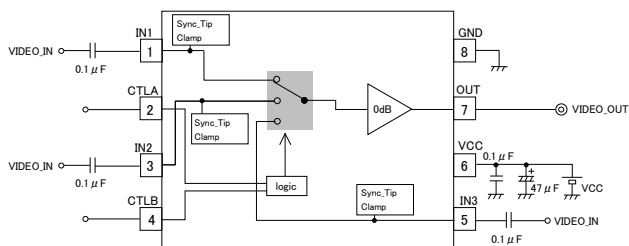
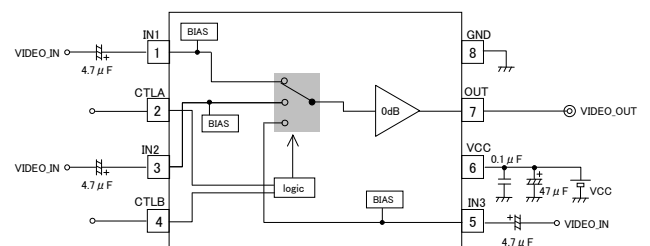

Fig. 9 BH76332FV
Fig. 10 BH76333FV
When evaluating the sag characteristics and determining the capacity of the capacitor during video signal input, a horizontal stripe signal called "H bar" (shown in Fig. 10) is suitable, and this type of signal is used instead of a color bar signal to evaluate characteristics and determine capacity.
11. Frequency response in models that do not include a 75-Ω driver (BH76332FVM and BH76333FVM) was measured as 100 kHz/30 MHz: 0 dB (Typ.) in the application circuit examples (shown in Fig. 9 and Fig. 10), and when resistance of about 1 or 2 kΩ is applied from the IC's output pin to GND, this frequency response can be improved (the lower limit of the applied resistance should be 1 kΩ). In such cases, gain is reduced, since the output voltage is divided by the added resistance and the output resistance of the IC.